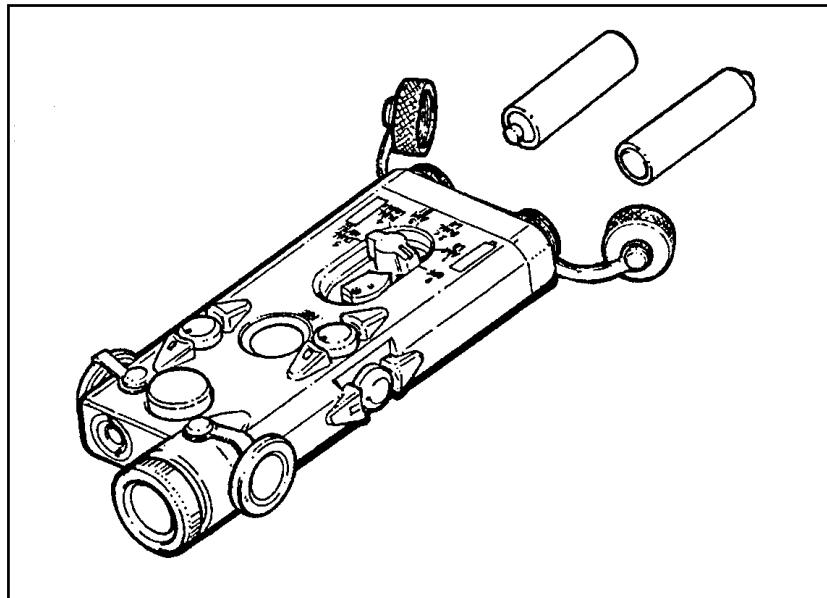

Figure F-7. AN/PEQ-2A battery installation.
(1) ***Battery Installation*** (Figure F-7).